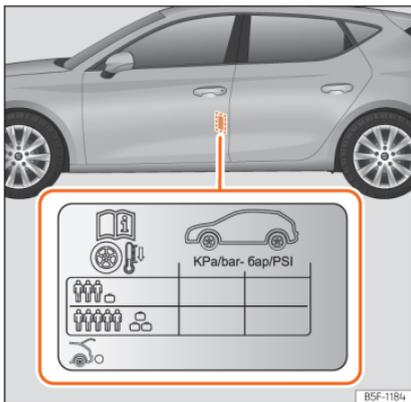

Fig. 233 Location of the tyre pressure sticker.
- Adjust tyre pressure to the load being carried by the vehicle » **Fig. 233**.
The tyre inflation pressures are listed on a sticker on the rear of the front left door frame » **Fig. 233**.
The tyre pressure must be adjusted according to the load the vehicle is carrying. If the vehicle is going to carry the maximum load, the tyre pressure should be increased to the maximum value indicated on the sticker » **Fig. 233**.
In the case of a minimised temporary spare wheel (125/70 R16 or 125/70 R18), inflate to a pressure of 4.2 bar as indicated on the tyre pressure label » **Fig. 233**.
- The driver is responsible for ensuring that all of the vehicle tyres are correctly inflated to the right pressure. The recommended tyre pressure is indicated on the label »» Fig. 233.
- When the tyres are cold, tyre pressure should be that indicated on the label »» Fig. 233.